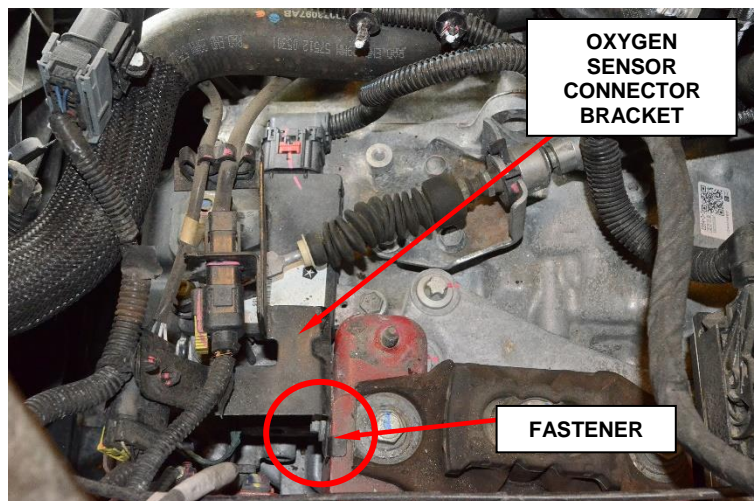

Figure 4 - Oxygen Sensor Bracket
16. Remove the fastener retaining the oxygen sensor connector bracket (Figure 4).
22. Install the oxygen sensor connector bracket and install the fastener (Figure 4).